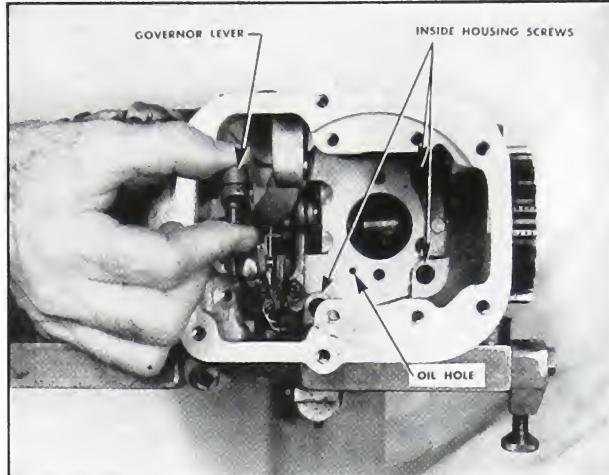

Fig. 5-336. Checking freeness of vertical lever
- NOTE: Three of the housing hold-down screws are assembled inside the governor housing. Fig. 5-336.
5. Check the linkage to see that the vertical lever works freely on the cam rocker lever. Fig. 5-336.